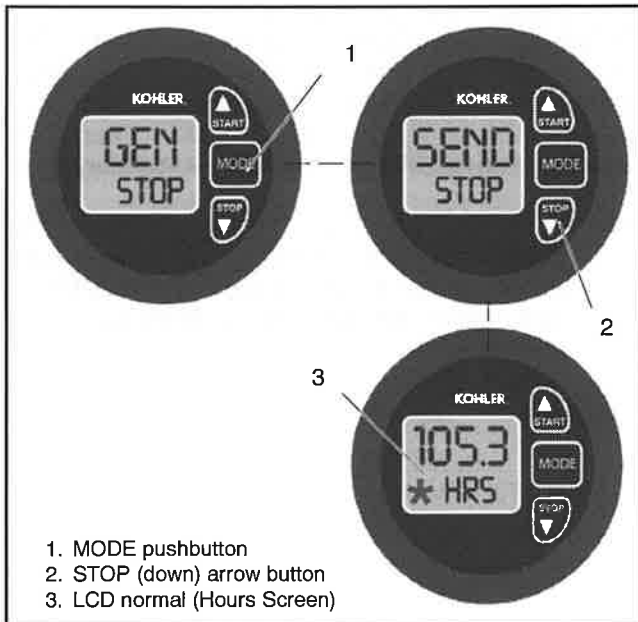

Figure 16 Gen STOP Gauge Pushbutton Functions
1. Press the **MODE** button until GEN STOP appears on the LCD screen. See Figure 16.
Press the **STOP** arrow (down) button ▼ to silence the alarm. See Figure 16.